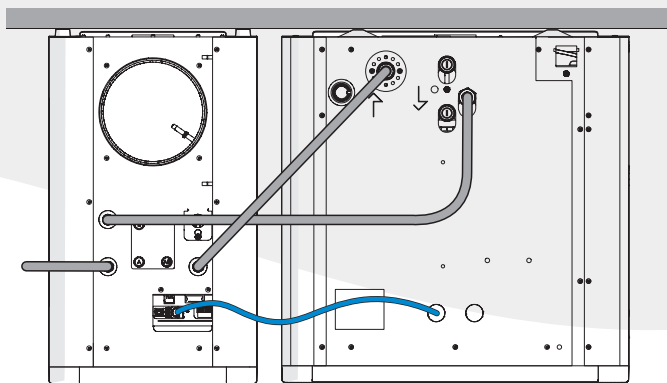

Figure 18 *The water-side connection of the GreenComfort.*
4. Connect the central heating supply pipe and the return pipe to the Modul-AIR (figure 18).